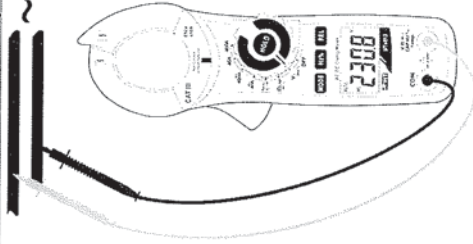

Fig. 3: Use of the clamp for AC voltage measurement
4. Insert the red cable into input terminal **V Ω →AC/Hz%** and the black cable into input terminal **COM** (Fig. 3).